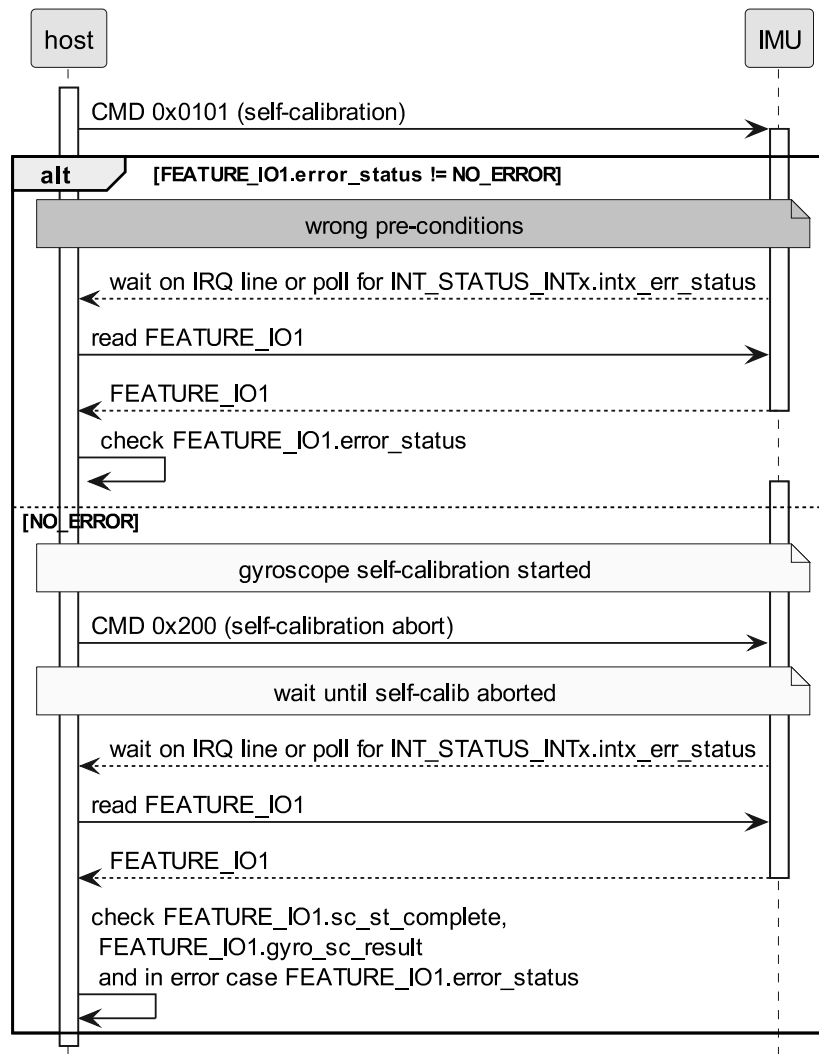

Figure 26 : Self-Calibration Abortion Sequence
**Abort the Self Calibration** A running self-calibration can be aborted by sending the command 0x0200 to CMD. Then, FEATURE\_IO1.state can be checked for any state different than 0b01 and the device reports in FEATURE\_IO1.error\_status the value 0x9. The sequence to abort the self-calibration is detailed in Figure 26.